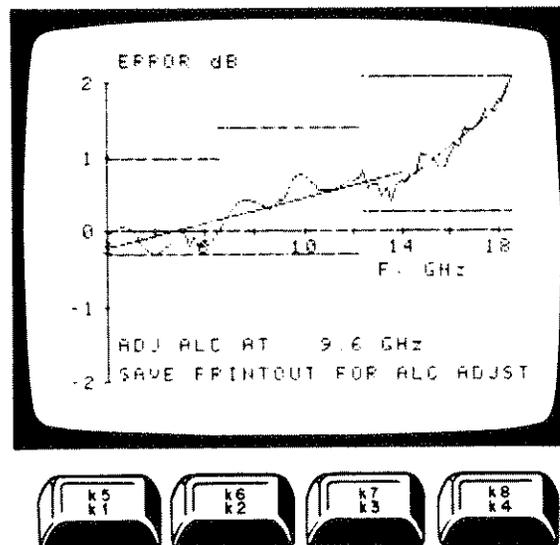

Figure 5-26. Typical Flatness Plot Before Adjustment
- c. A copy of the flatness plot is printed. See Figure 5-26.